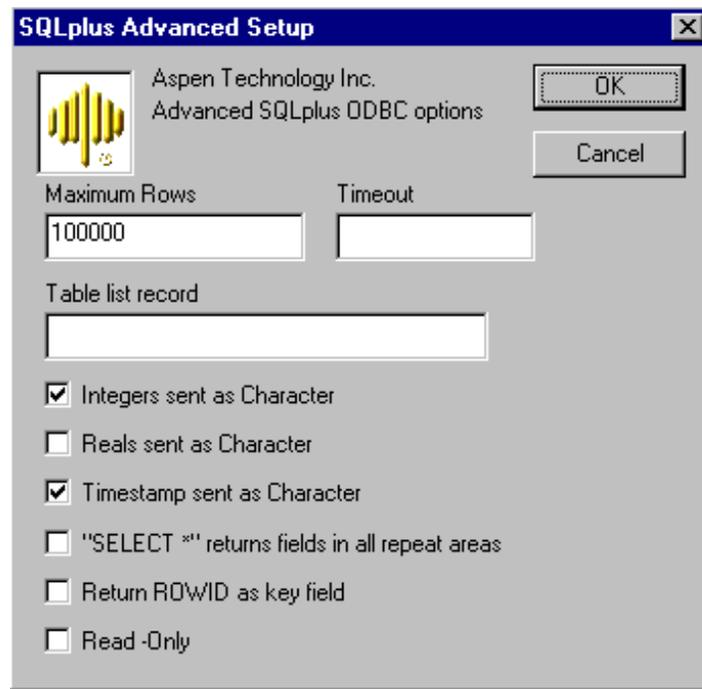

Figure A-8: SQLplus Advanced Setup
- (This step is for Advanced users only; all others go to Step 9.) Click Advanced. The SQLplus Advanced Setup screen appears (Figure A-8).